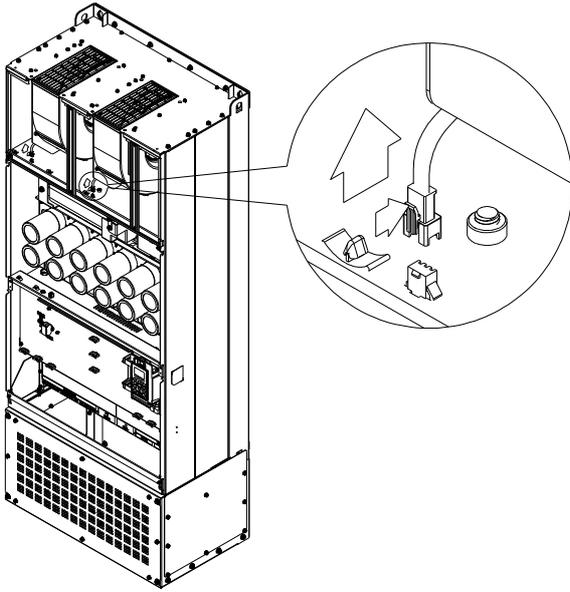

Figure 3
(3) Disconnect the fan (figure 3).